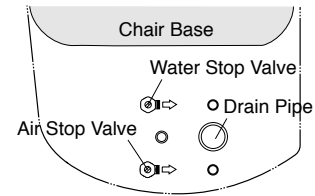

Fig.3-3-1 Direction of Air and Water Stop Valves
- (2) Install water and air stop valves to each supply pipe. The direction of stop valves are shown in **Fig.3-3-1**.
- (3) After installation of the stop valves, open the valves and flush out dust and chips in the pipings.